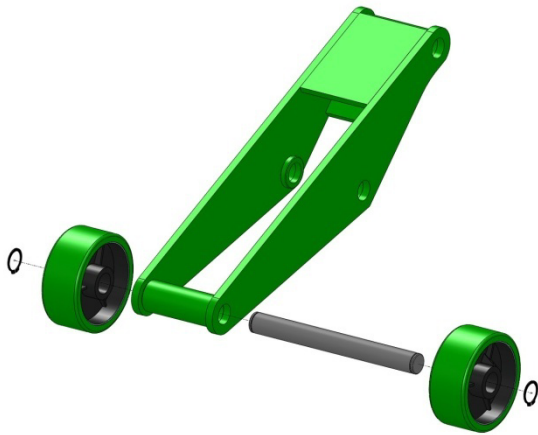

Figure 6.5
1. Install two wheels onto the lifting support. See figure 6.5